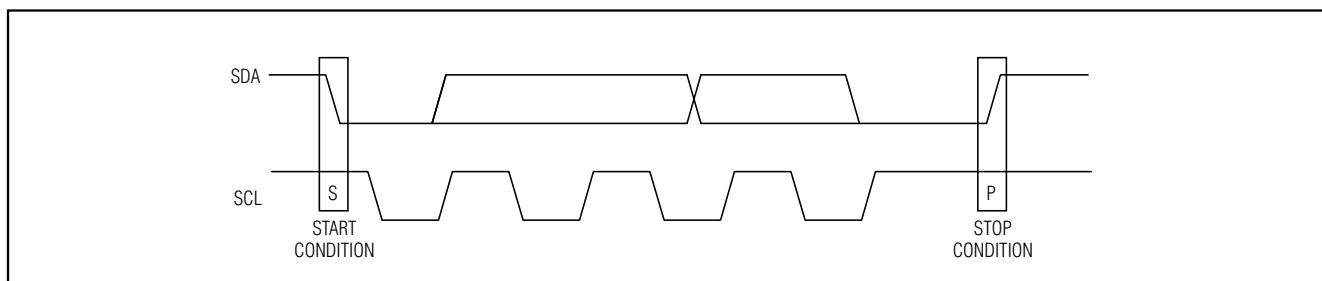
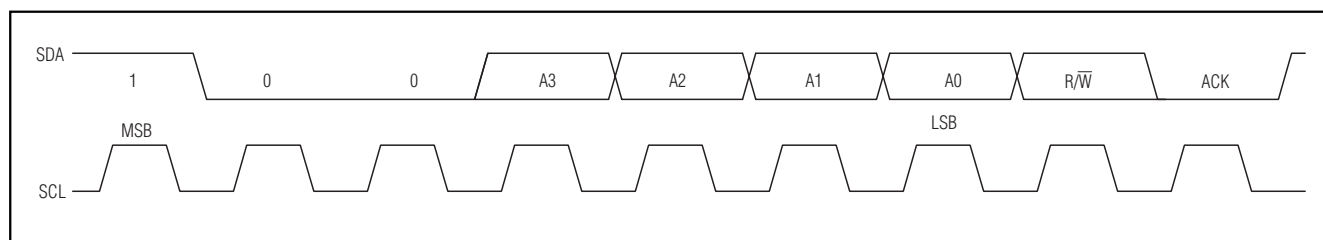

Figure 3. Start and Stop Conditions
Figure 6. Slave Address
Each transmission consists of a START condition (Figure 3) sent by a master, followed by the MAX7300 7-bit slave address plus R/ \overline{W} bit (Figure 6), a register address byte, one or more data bytes, and finally a STOP condition (Figure 3).
Both SCL and SDA remain high when the interface is not busy. A master signals the beginning of a transmission with a START (S) condition by transitioning SDA from high to low while SCL is high. When the master has finished communicating with the slave, it issues a STOP (P) condition by transitioning SDA from low to high while SCL is high. The bus is then free for another transmission (Figure 3).
The MAX7300 has a 7-bit-long slave address (Figure 6). The eighth bit following the 7-bit slave address is the R/W bit. It is low for a write command and high for a read command.